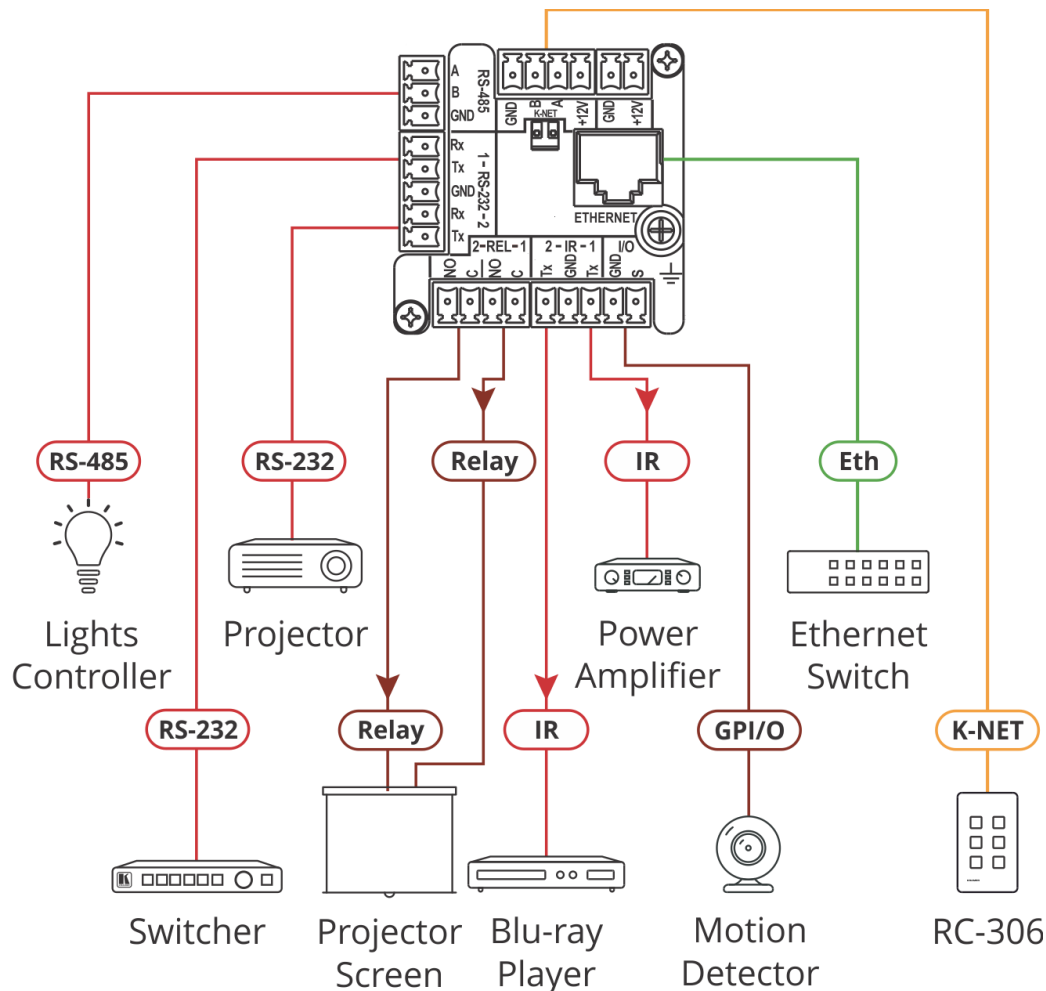

Figure 7: Connecting to the RC-308 Rear Panel
**To connect RC-308 as illustrated in Figure 7:**
2. Connect the RS-232 terminal block connectors ⑦ as follows (see Connecting RS-232 Devices on page 11):
3. Connect the relay terminal block connectors ⑫ as follows:
4. Connect the GPIO terminal block connector (GND, S) ⑭ to a motion detector.